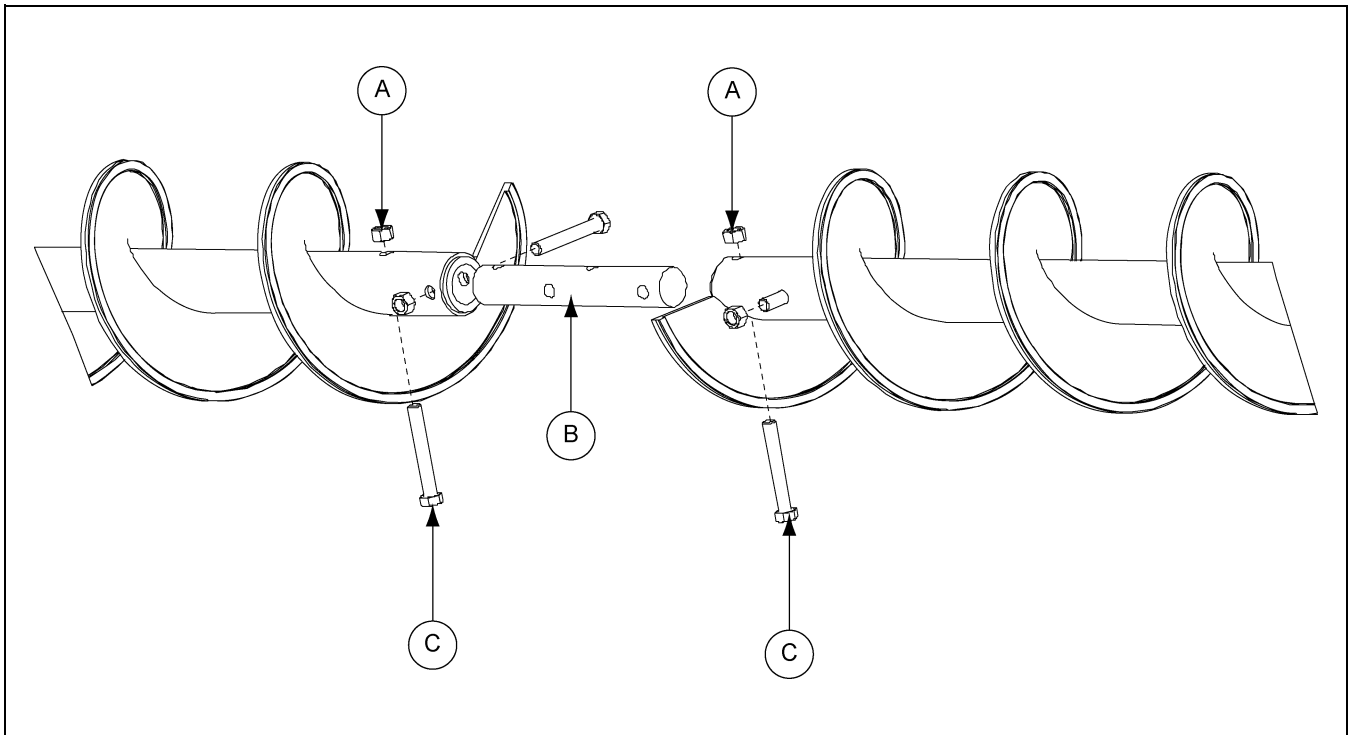

Figure 4AC
2. Locate the inner unload flight. One end of this flight should have a square bushing; The other end has a round bushing with two (2) cross drilled holes. Attach the 1-1/2" O.D. x 9-1/2" connecting shaft (B) to the inner unload flight using two (2) 1/2" x 3-1/2" grade 8 hex bolts (C) and stover nuts (A).
3. Align the outer unload flight to the inner unload flight, making sure that the dura-edge on both flights are as continuous as possible, the angle between both faces being less than 90° wherever possible, but not greater than 180° and without overlapping. (See Figure 4AC.)